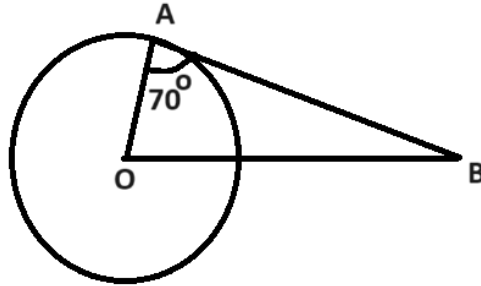

Figure Q1b: Crank mechanism.
- b) **Figure Q1b shows** a crank mechanism. Crank arm OA , of length 130 mm , rotates clockwise about O . Connecting rod AB is of length 350 mm .